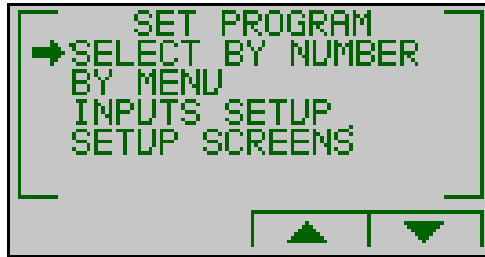

Figure 4-5. **Program Number Set**
3. The screen in figure 4-5 will appear.
2. Select the screen described in figure 4-5, use F3, F4 and choose "INPUTS SETUP" and press Enter. The Analog Inputs list will appear.